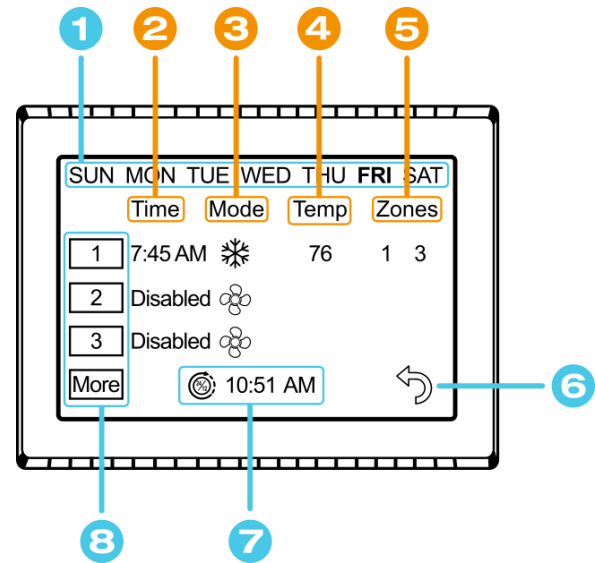
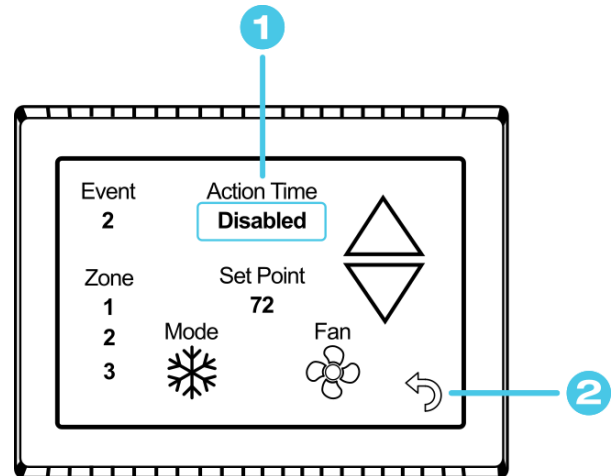
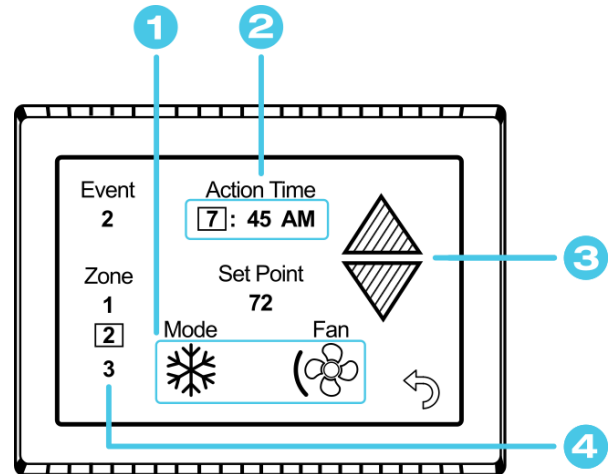

Figure 10 - Main Schedule Screen
Figure 11 - Schedule Edit Screen (Disabled Event)
Figure 12 - Schedule Edit Screen (Enabled Event)
The schedule supports 7 day per week scheduling of events. Events can include changes to the set point or mode of operation for one or more zones. Each numbered row is an event that can be configured. *Figure 10* shows the main schedule screen. Tap the “Schedule” button from the *Settings Screens* to enter.
Events are numbered 1 to 6 along the left side of the screen. Each row is a numbered event. Tap an event to edit it and advance to the schedule edit screen, shown in Figure 11. Tap “More” to see events 4, 5, and 6.
*Figure 11* shows the edit screen when an event is tapped as shown in (8) *Scheduled Events* of *Figure 10 - Main Schedule Screen*. The event time on the main schedule screen and Action Time in the edit schedule screen will show disabled until a time is set. Tap “Disabled” (1) at the top of the screen to show a gray box around the Action Time to select it. The up and down arrows change to full color once a selection is made. Use the arrows to make a change to what is selected. Use the back arrow (2) to save any changes and leave the screen.
*Figure 12* shows the schedule edit screen once a valid time is set for the event.
4. **Zoned systems only:** Tap the zone number to enable/disable the zone you want this event to affect. A green box will draw around zones the event is enabled for. Events for Single zone EasyTouch RV models will always be enabled when the Action Time (2) is set.
1. Tap the edit schedule button as described in the *Schedule – Edit, Enable or Disable* section in settings to enter the main schedule screen, shown by *Figure 10*.
2. Ensure that a valid (7) *System Time* is shown. Tap the day you want to set up a schedule for, then the event you want to edit, all shown by *Figure 10*. Tapping the event will take you to the edit schedule screen, shown by *Figure 11* and *Figure 12*.
5. Tap the back button once again to return to the settings screen. Activate the schedule by pressing the schedule button with the “Enabled/Disabled” subtext as described in the *Schedule – Edit, Enable or Disable* section in settings. When enabled, it may also be noted on the (9) *Info Screen*, under the *Main Screen*.